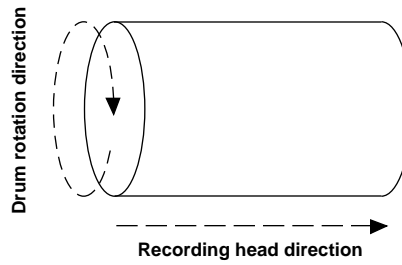
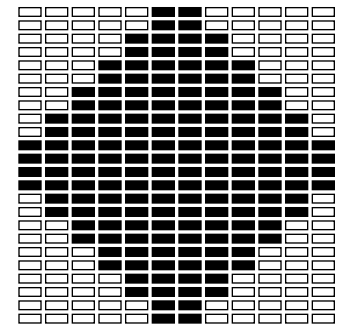

Figure 4 - Diagram showing the two different directions for addressability.
Figure 5 - In this example, the addressability is higher in the drum rotation direction.
- With drum recorders like the ChromaGraph 3030, the addressability along the axis in which the recording head moves, may not be the same as the addressability in the direction of the rotation of the drum. (See Figure 4.) This can result in a situation like that shown in Figure 5. The addressability in the drum rotation direction may be as much as four times that of the recording head direction.